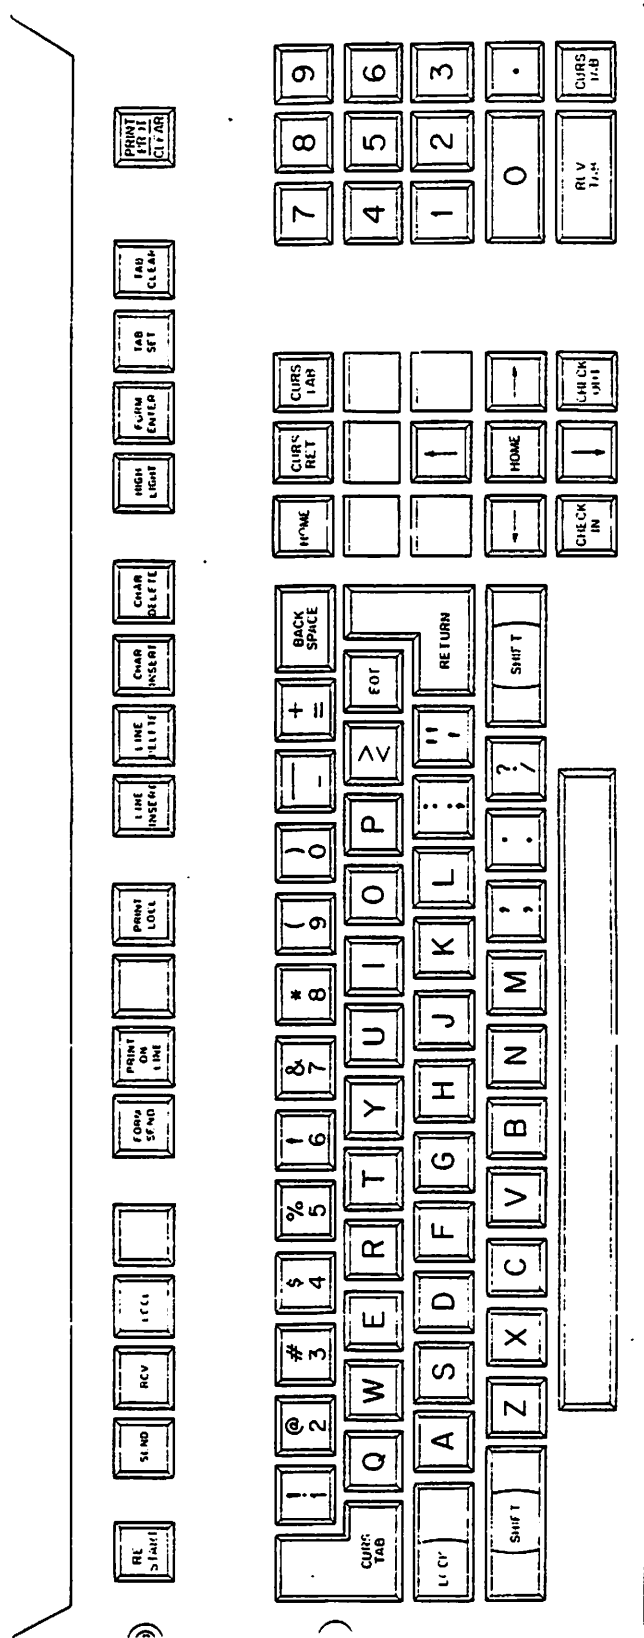

FIGURE 2 -- KEYBOARD LAYOUT
- f. Sixteen (16) new key caps and fourteen (14) new inserts are being used. See figure 2.
Operation of the Terminal (keyboard display) device is done by means of the keyboard (see figure 2).
2.4.1 CONTROL KEYS (see figure 2)